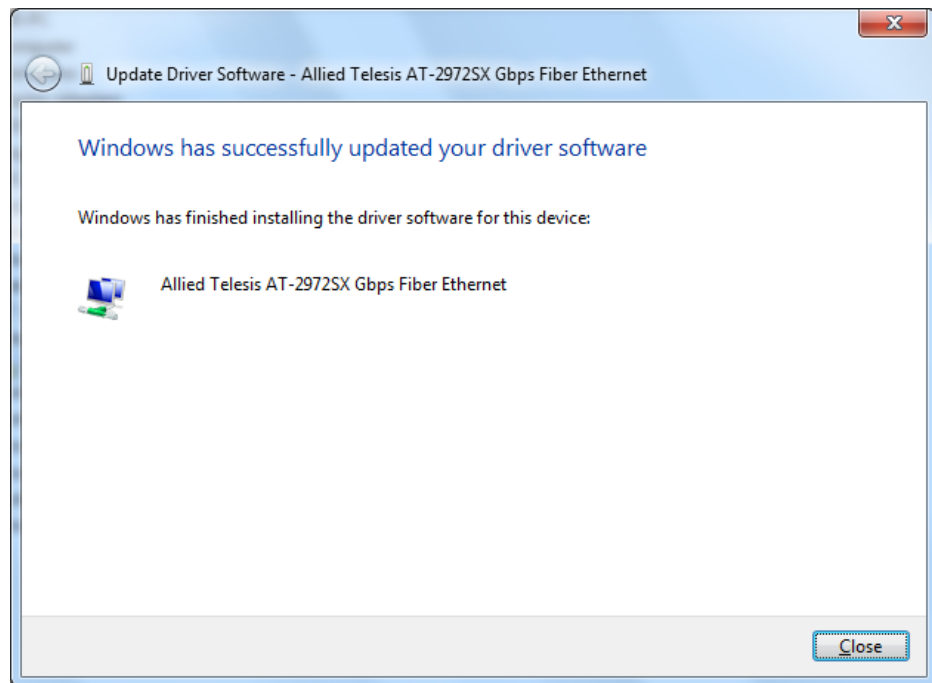

Figure 20. Update Driver Software - Confirmation Window
The Update Driver Software - Ethernet Controller: Browse for Driver Software Window is displayed. See Figure 20 on page 50.
7. Click **Next**. A confirmation message is displayed. See Figure 20.